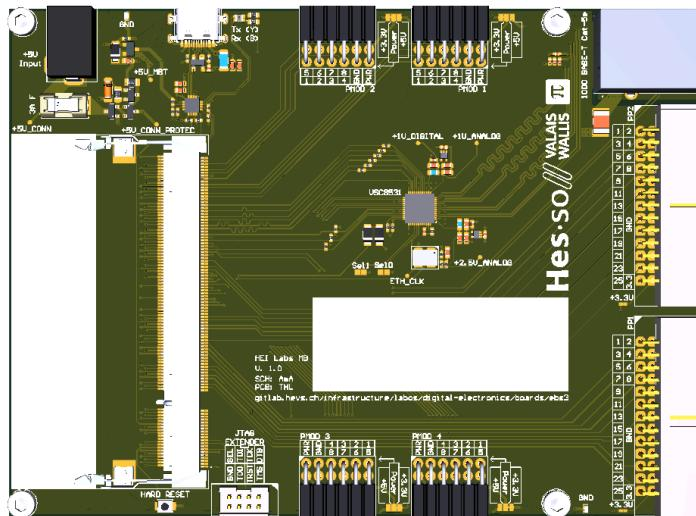

Figure 4 - FPGA board
- An FPGA development board, see figure Figure 4.